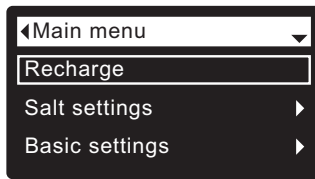

FIG. 84
During normal operation (status screens rolling), press the conditioner/refiner’s SELECT (O) button to display the Main menu (See Figure 84). This menu and its subsidiary screens are used to control these operations: